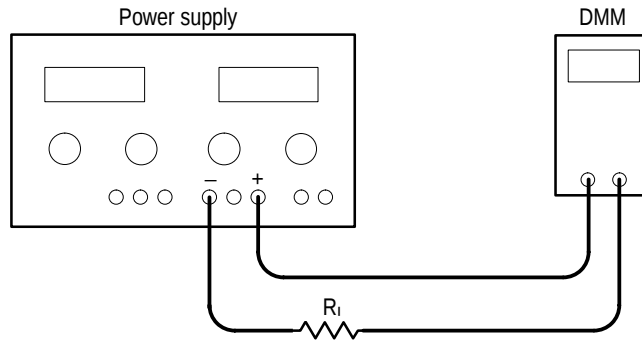

Figure 4: Constant Voltage Test Setup
3. Connect the digital multimeter and load resistors to the + and – terminals of the power supply MASTER output as shown in Figure 4. See Table 9 for the appropriate load resistor values.
3. Connect the digital multimeter and load resistors to the + and – terminals of the SLAVE output as shown in Figure 4. See Table 9 for the appropriate load resistor values.
2. Connect the digital multimeter and load resistors to the 5V FIXED 3A terminals. Use the test setup illustrated in Figure 4. See Table 9 for the appropriate load resistor values.